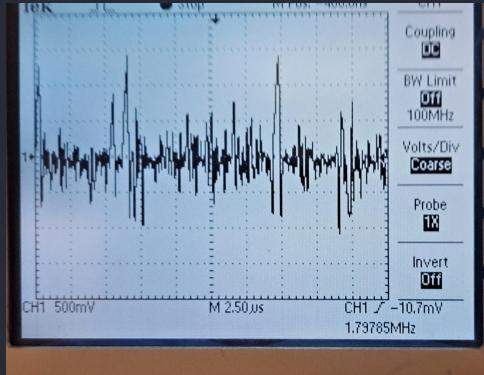

Figure 1.1: BT Noise on scope (Time Domain)
Initial Setup T-Spin's "buried treasure" (BT) module through a F splitter to both the 'scope and the SR770 as shown in Fig. 1.1 and 1.2.